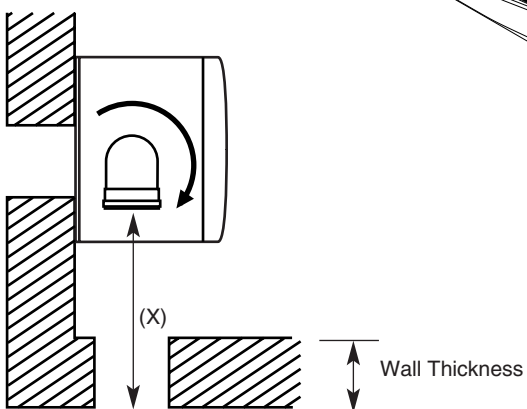

Fig. 18
3. Measure the distance from the outside wall face to the elbow. This dimension will be known as 'X' (Fig. 18).